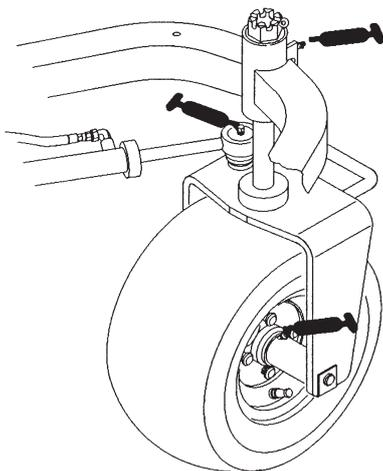
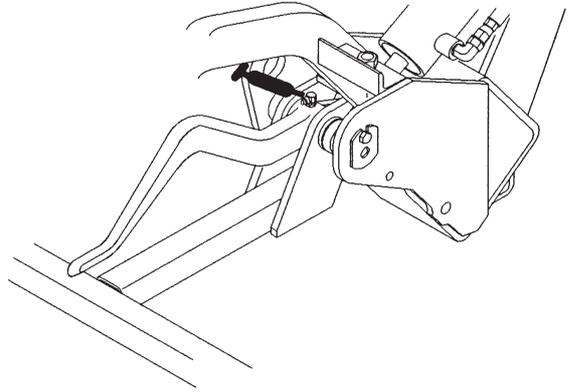
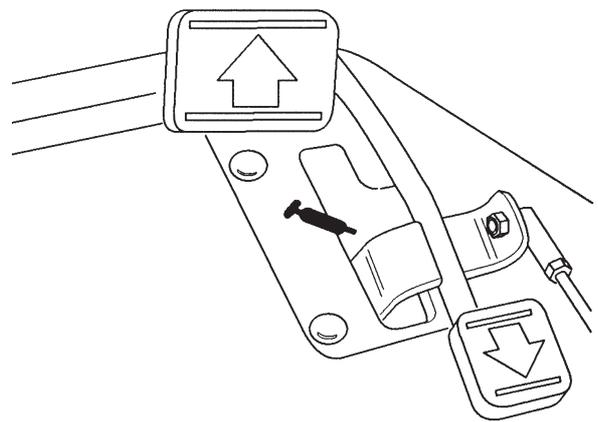

Figure 16
Figure 17
Figure 18
The traction unit bearings and bushings that must be lubricated are: Rear wheel hub (1), Castor bearing (1), Steering cylinder (2) (Fig. 16), Lift arms (3) (Fig. 17), Traction pedal pivot (1) (Fig. 18).